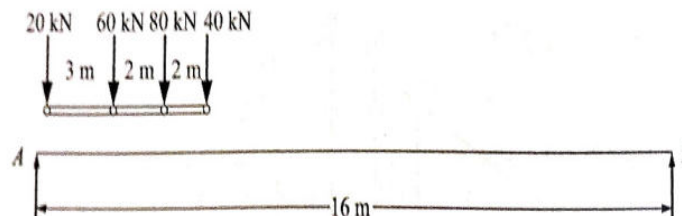

Figure 6.
7. A train of concentrated loads shown in figure 6, moves from left to right on a simply supported girder of span 16 m. Determine the absolute maximum shear force and bending moment developed in the beam. [14M]